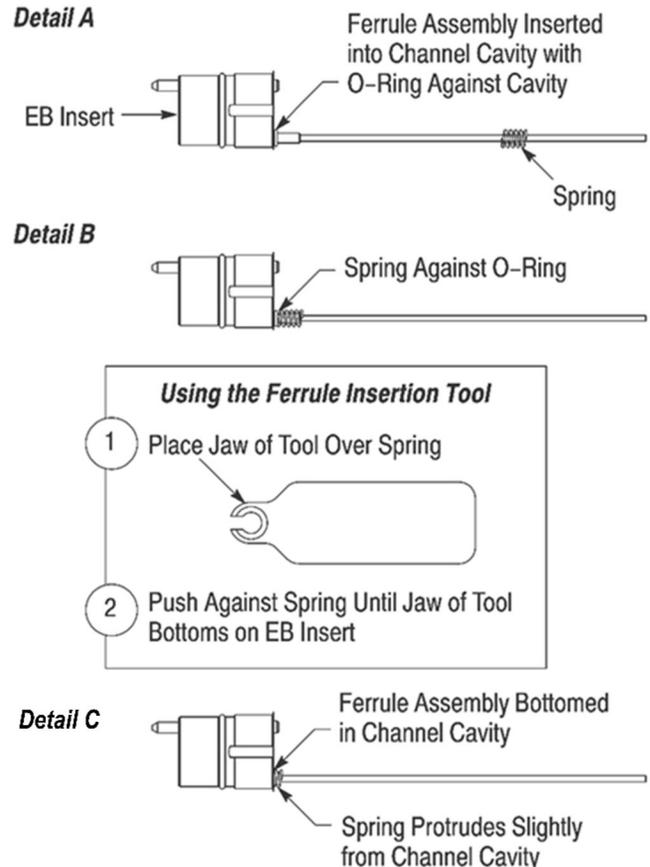

Figure 11
1. Align the end of the ferrule assembly with the appropriate channel cavity of the EB insert, and insert the ferrule assembly into the channel cavity until the O-ring is against the channel cavity. See Figure 11, Detail A. To avoid damage to the fiber, DO NOT push on the fiber to install the ferrule assembly.
2. Slide the spring over the fiber until it is against the O-ring of the ferrule assembly. See Figure 11, Detail B.
3. Using the ferrule insertion tool, **push on the spring** until the ferrule assembly bottoms in the channel cavity (the O-ring will be inside of the cavity, and the spring will protrude slightly from the cavity). See Figure 11, Detail C.